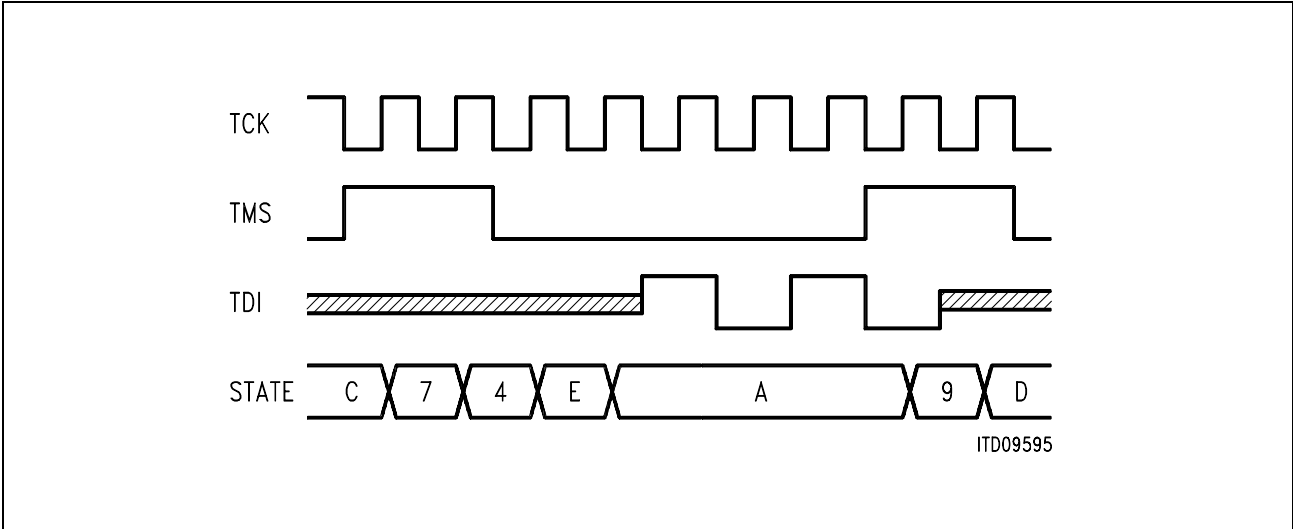

Figure 4
- The instruction TAP_TEST2 is shifted into the TAP controller (see **figure 4**)
The TAP controller state machine passes through the different states according to figures 4 to 7.
States of TAP Controller (explanation for figures 4 to 7)